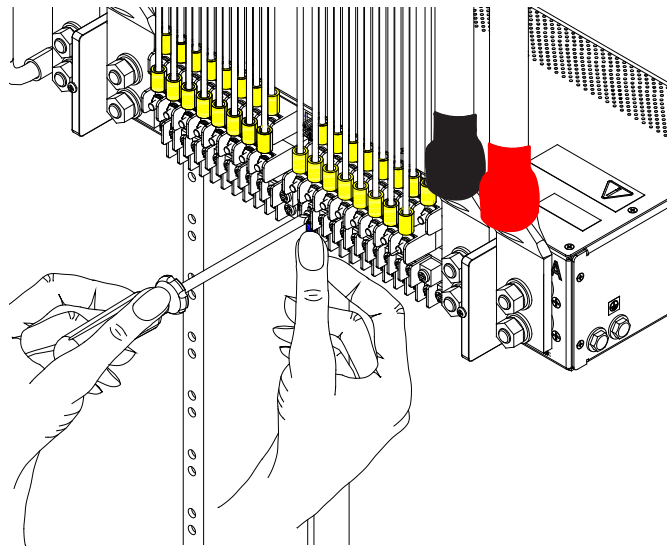

Figure 8 - GMT Output Lug Connections
32. Connect to the terminals, as shown in Figure 8. (NEC specifies only one load at each output terminal.)